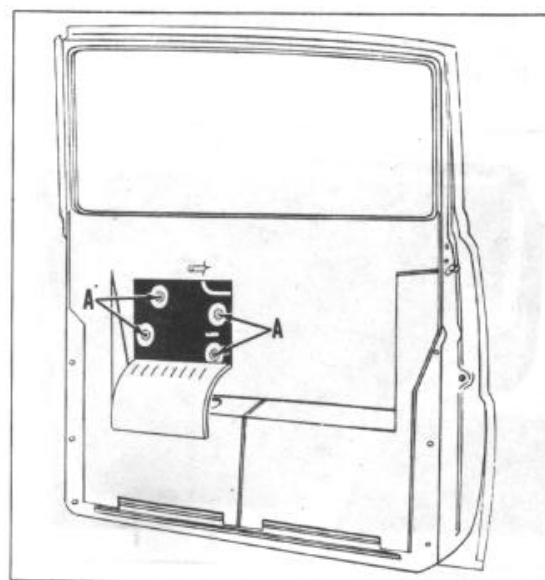

FIGURE 4
2. Remove garnish moulding spacer block. 3. Cut door inner liner as shown in Figure 4.